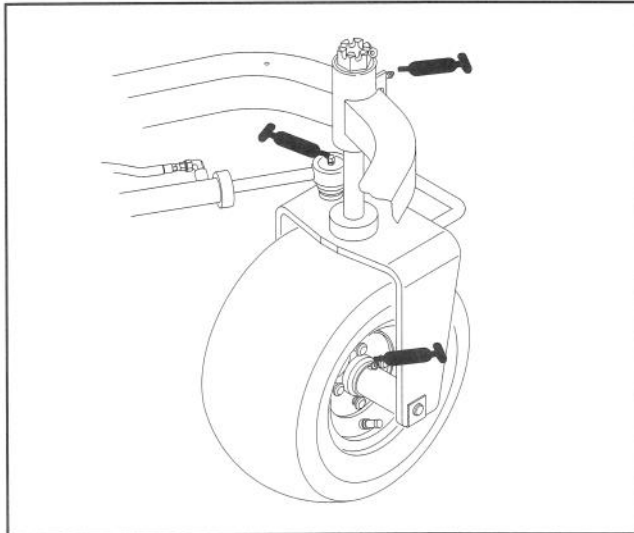
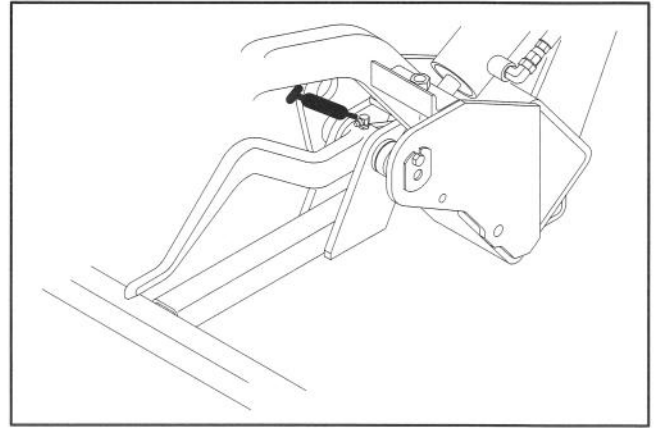
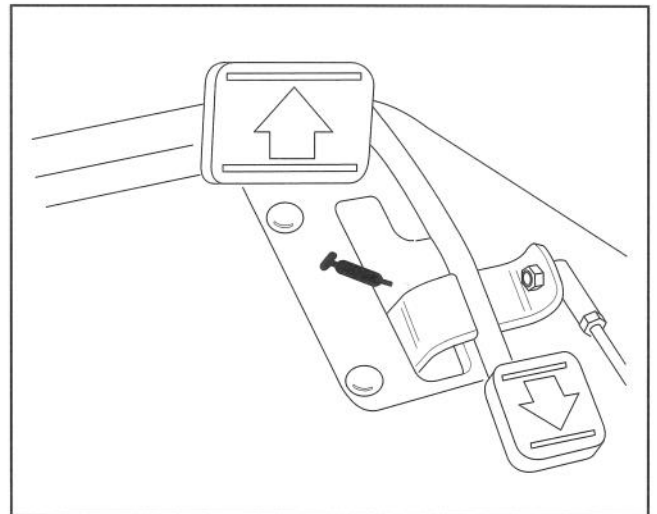

Figure 27
Figure 28
Figure 29
The traction unit bearings and bushings that must be lubricated are: Rear wheel hub (1), Castor bearing (1), Steering cylinder (2) (Fig. 27), Lift arms (3) (Fig. 28), Traction pedal pivot (1) (Fig. 29).